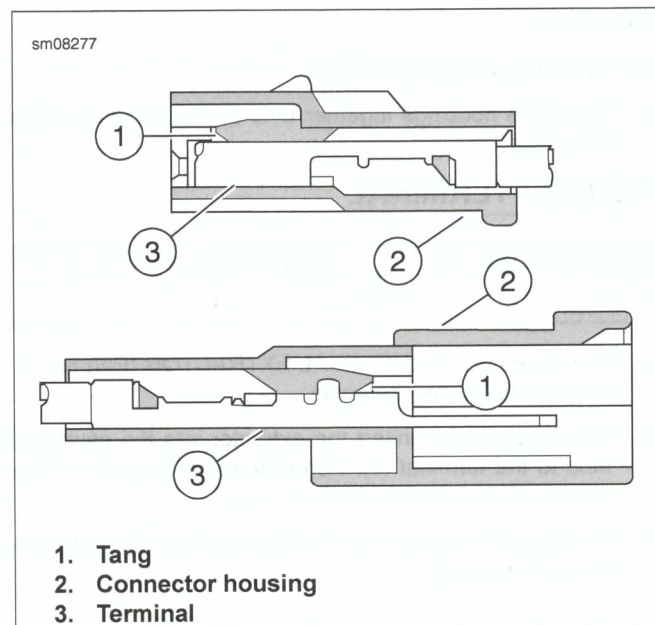

Figure A-24. Sumitomo MT Unsealed Connector
3. See Figure A-24. Remove terminal from housing.
- b. Press and hold the plastic tang (1) away from the terminal (3).
- c. Gently pull the wire to remove the terminal from the connector housing (2).